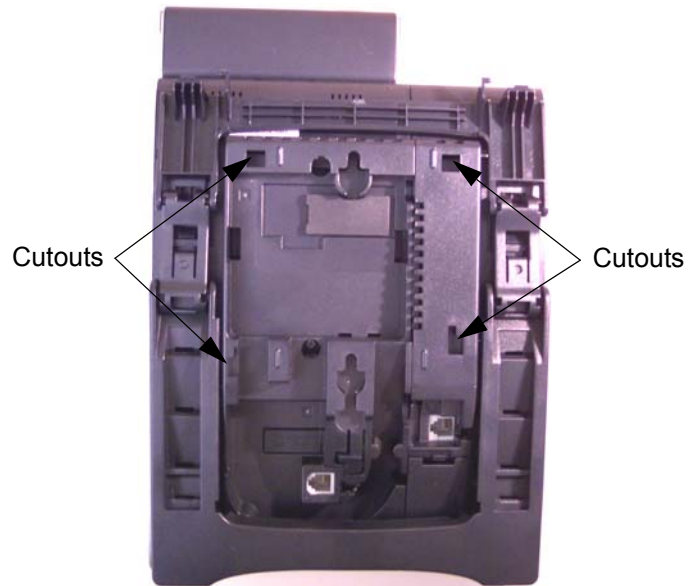

Figure 5-117 Cutouts for WM-L UNIT
4. Align the four cutouts with the four tabs on the WM-L UNIT (refer to Figure 5-117 Cutouts for WM-L UNIT on page 5-106).